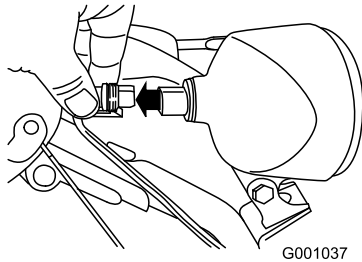

Figure 60
1. Remove the wire connector from the back of the headlight (Figure 60).